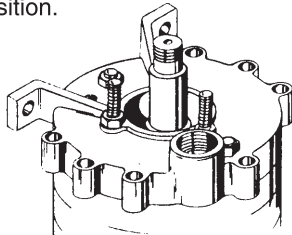

Figure 4-11
19. Install two nuts (#20A) onto the guide rods and tighten enough to hold the entire assembly in place.(refer to figure 4-11) Do not try to tighten them to their final position.